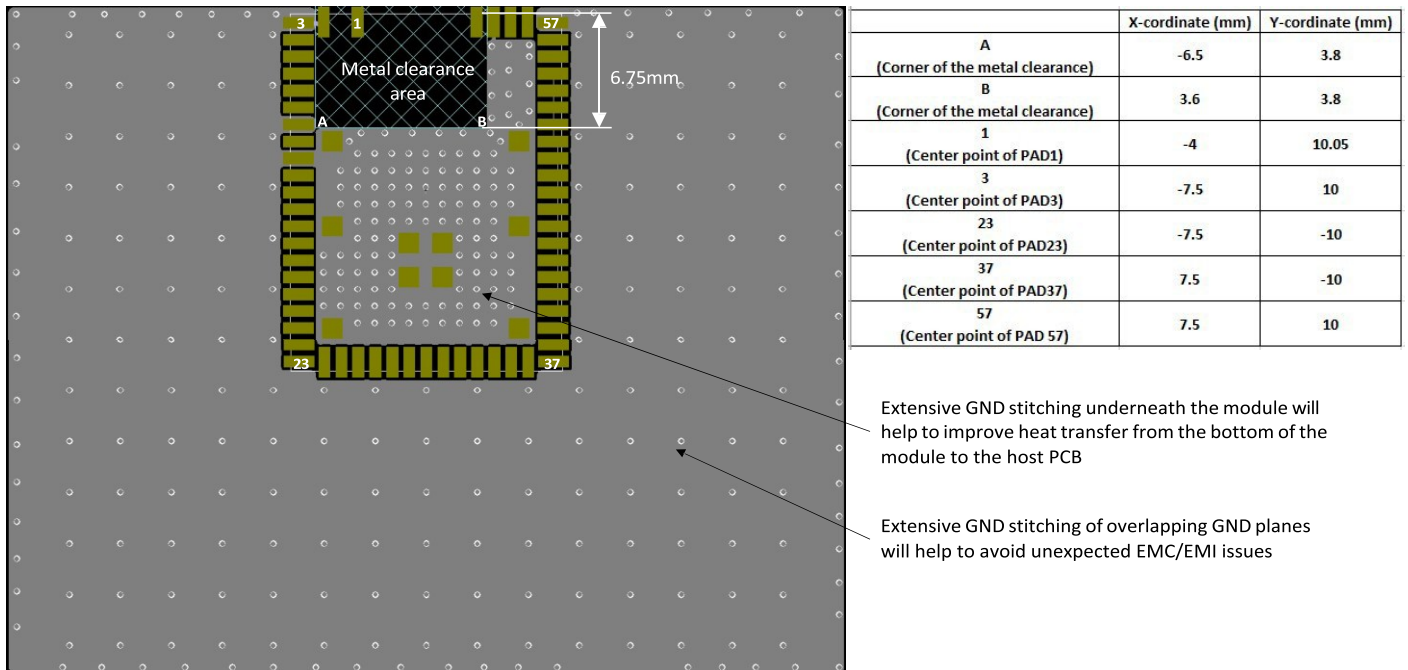

Figure 8.34. Application Layout of 453-00222
- Place the module aligned to the edge of the application PCB, as illustrated in Figure 8.34 on page 158.